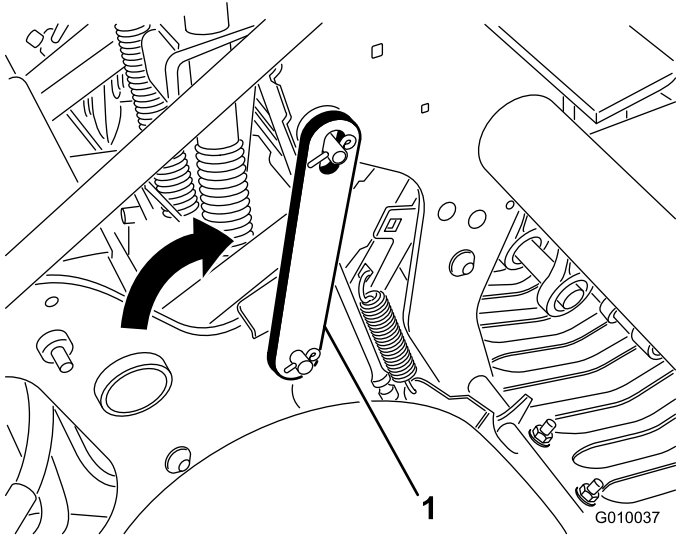

**Figure 21**
3. Remove the clip ring securing the service latch in the storage position (Figure 21).